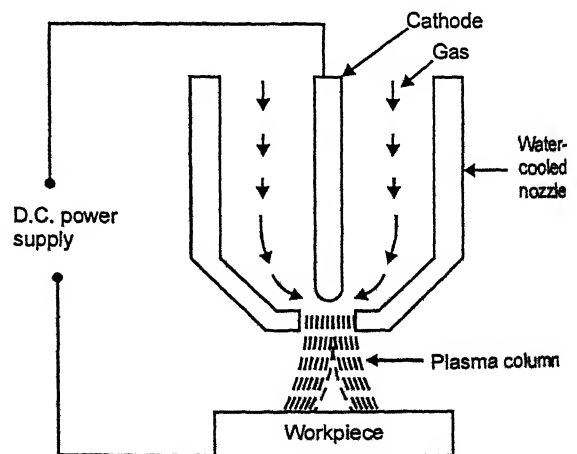

Fig. 13.37. Transferred arc plasma jet torch.
- The '*transferred arc*' plasma jet torch (Fig. 13.37) is similar to